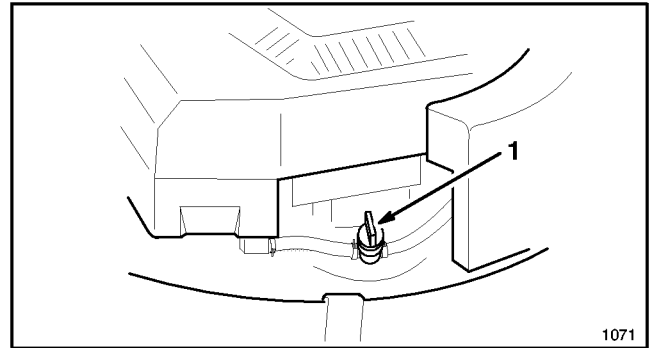

Figure 8
4. Open fuel shut-off valve on engine (Fig. 8).
3. Open fuel shut-off valve (Fig. 8) if it is not already open.